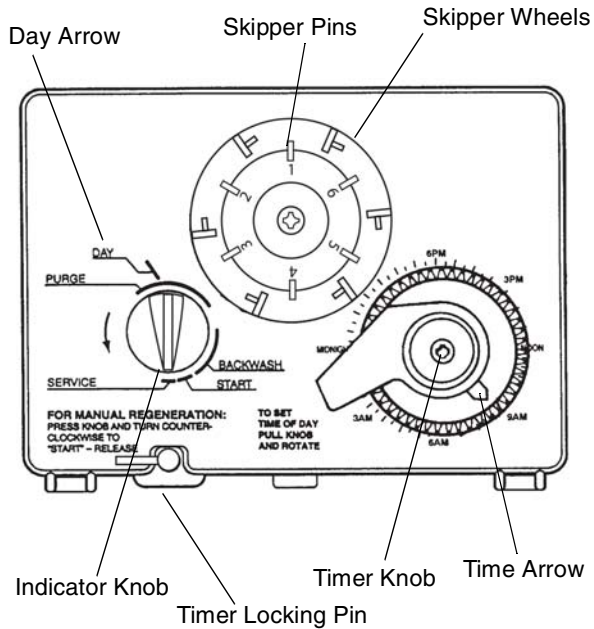
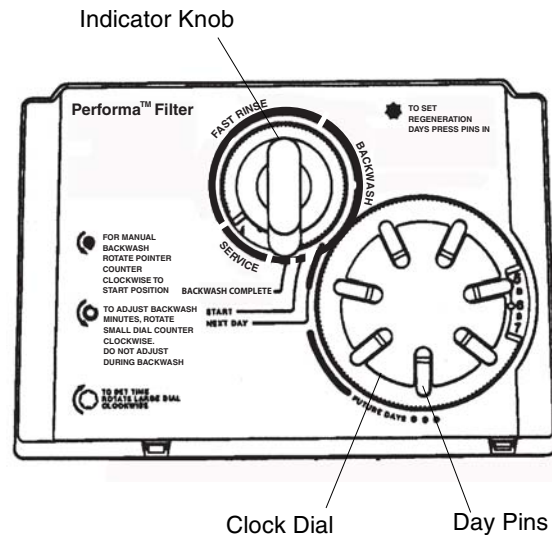
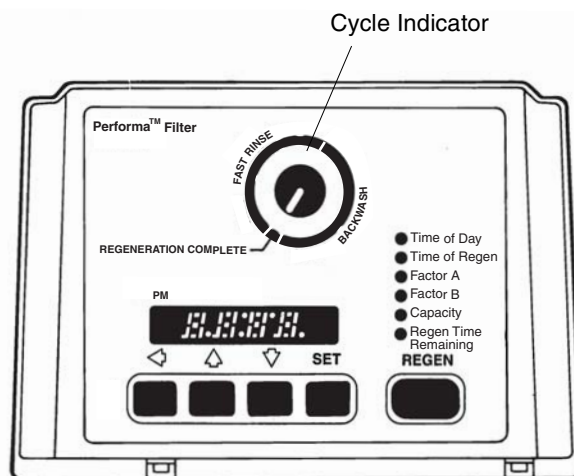

Figure 4
Figure 5
Figure 7
**Note:** The following steps will require turning the indicator knob (Figure 4 and Figure 5) or the cycle indicator (Figure 7) to various positions. Manually rotate the camshaft **COUNTERCLOCKWISE** only until indicator knob and cycle indicator points to desired position. (See manual regeneration sections for each control's manual operation.)
- Set days of regeneration on skipper wheel (Figure 4).
**Note:** The timer locking pin should always be horizontal (Figure 4) during operation.
When abnormally high water usage exhausts your water conditioner's capacity ahead of schedule, an extra regeneration can be achieved. Depress the indicator knob on the 440i (Figure 4) with a wide-blade screwdriver and turn **COUNTERCLOCKWISE** to **START** to initiate a regeneration. It will take a few minutes for regeneration to start. A normal regeneration will take approximately two hours.
Electricity is used only to run the control and to rotate the camshaft. All other functions are operated by water pressure. Therefore, in the event of a power outage, all the regeneration positions may be dialed manually by depressing the indicator knob and turning **COUNTERCLOCKWISE** (Figure 4). The following cycle times should be used for proper regeneration:
- Set days of regeneration (Figure 5).